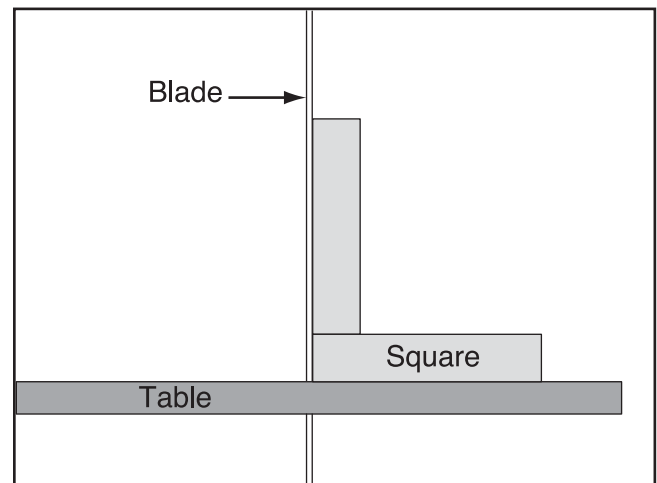

Figure 33. Squaring table to blade.
4. Raise the guide post and place a machinist's square on the table next to the side of the blade, as illustrated in **Figure 33**. Adjust the table square with the blade, then secure it with the table tilt lock lever (see **Figure 71** on **Page 42**).